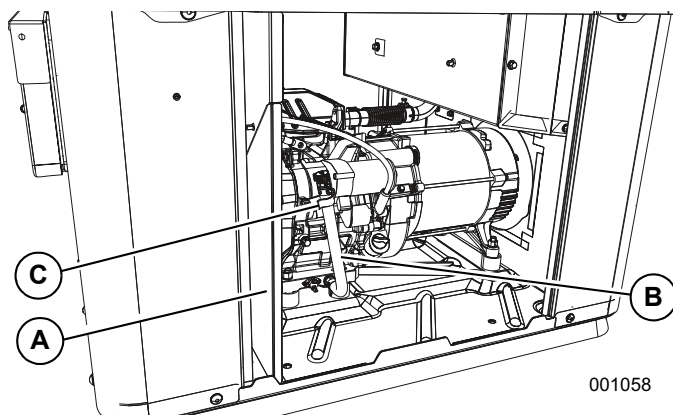

Figure 4-3. Oil Drain Location
3. Remove the battery access panel (A) by loosening the two hex head screws. See Figure 4-3.
5. Pull the oil drain hose (B) free of its retaining clip (C). See Figure 4-3.